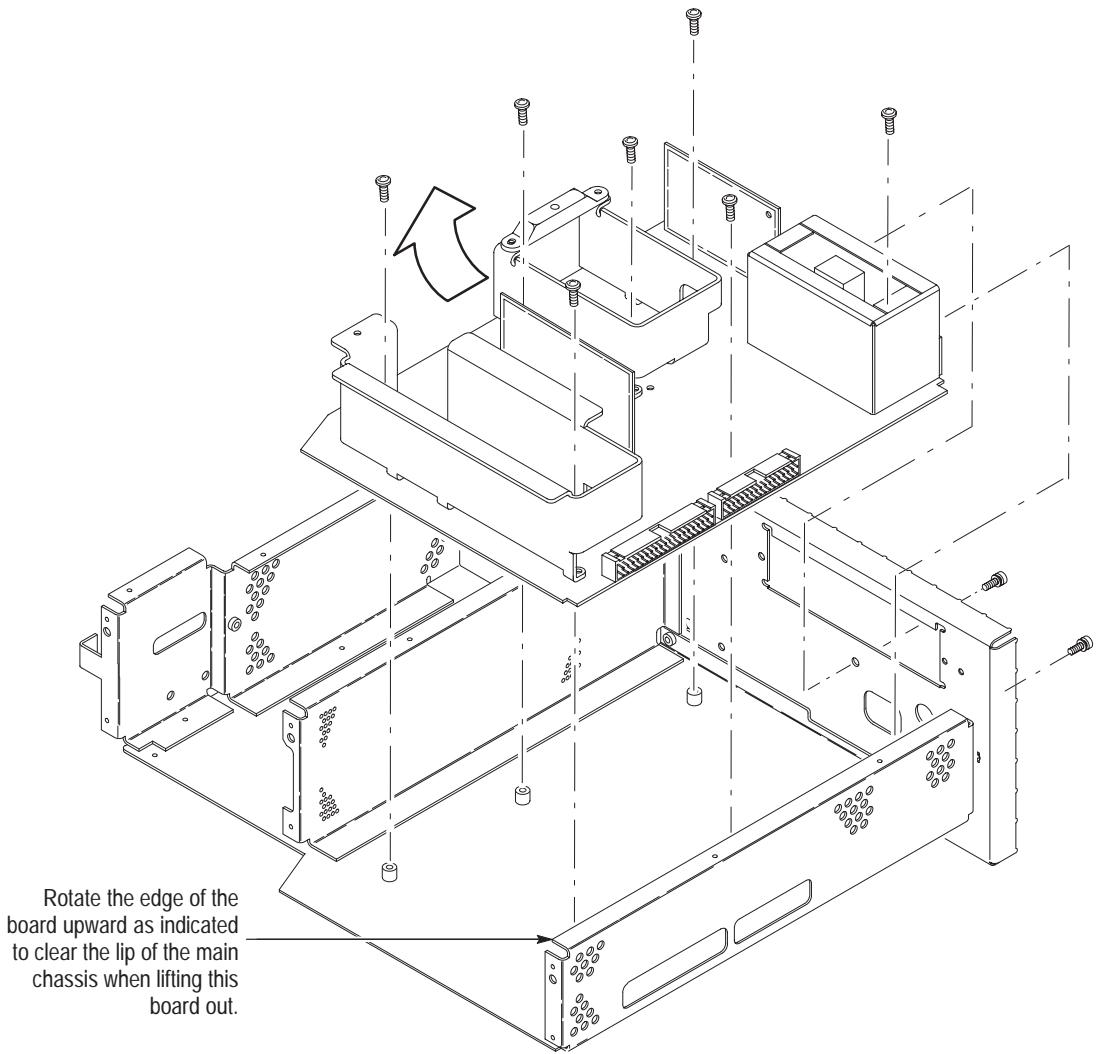

Figure 6–23: A16 Low voltage power supply removal
1. *Assemble equipment and locate modules to be removed:* Have handy a screwdriver with a size T-15 Torx® tip (Items 1 and 2). Locate the modules to be removed in the locator diagram *Inner-Chassis Modules*, Figure 6–2, page 6–13.